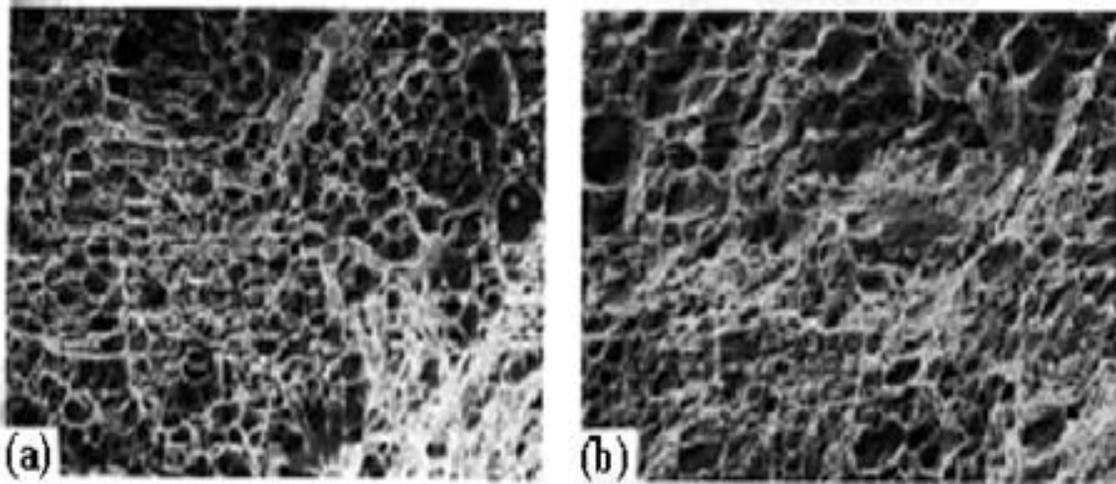

Fig. 3. Fractographs of a ductile cup-and-cone fracture surface. (a) Bottom of the cup. (b) Sidewall of the cup. SEM. 650X. Source: Ref 2.
**Fig. 3. Fragment of a thick-walled fractured drum. The fracture, which started at the right side of the photo, ran rapidly to the left, resulting in a well-defined chevron pattern. (Ref 10)**